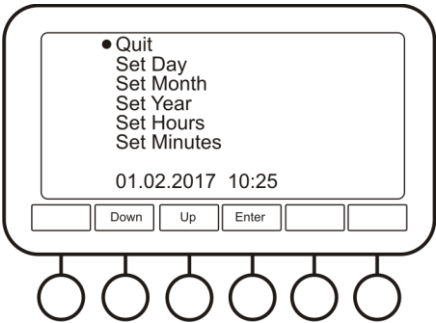

Figure 5. Date & Time menu
5.9.2. **Date & Time** (fig. 5). To set date and time in this submenu, press **Enter** button to select the parameter, then **Down** and **Up** buttons to change the value and **Enter** button to confirm changes.